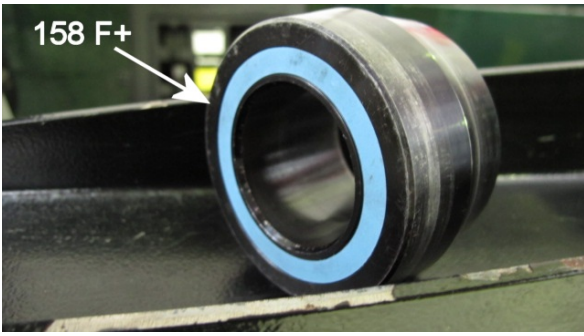

Figure 5
- For applicable Hunter machines, it is imperative that the adaptor cone with part number 158 F+ with a light Blue coloured face as shown in Figure 5.